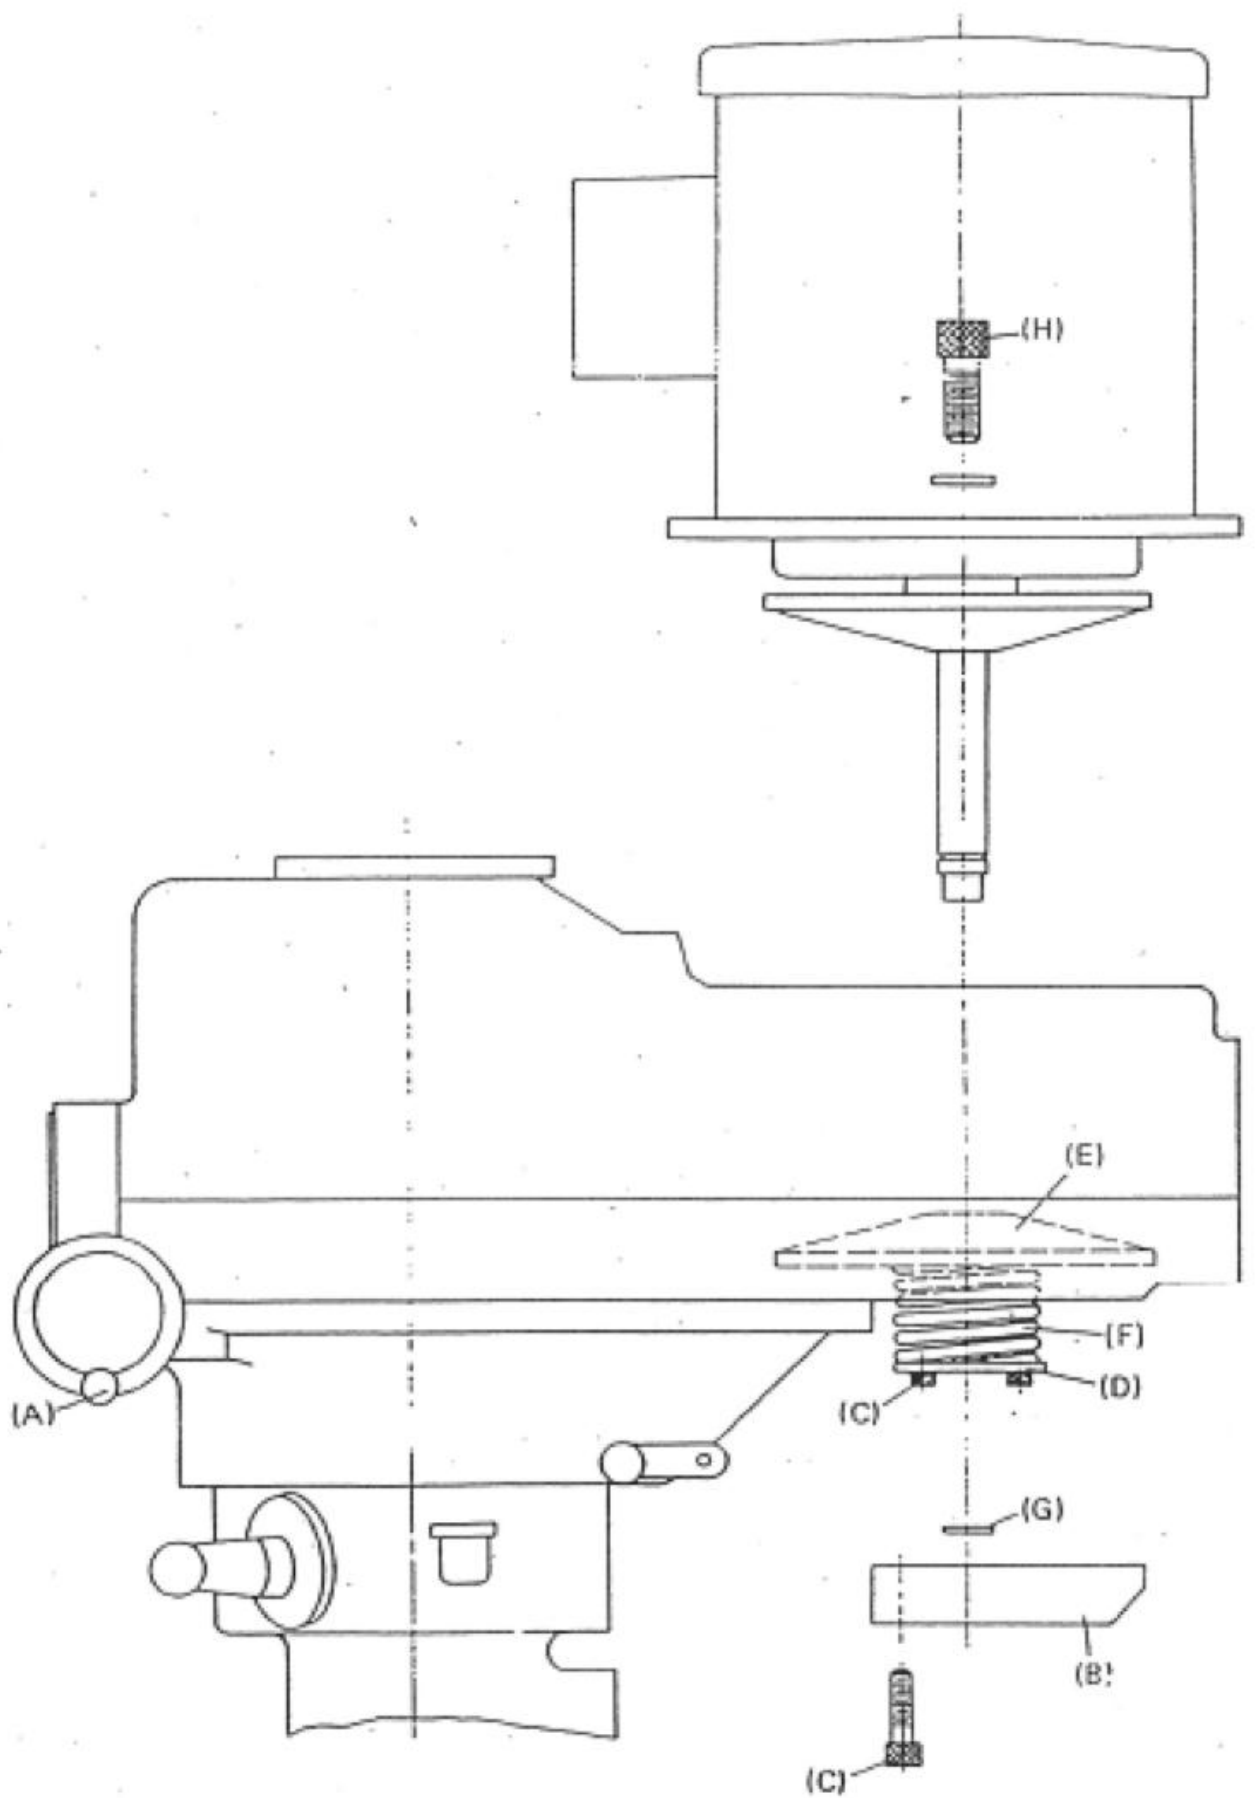

Figure 17
(1) Dismantling of TMV-185VS Motor (as shown in Figure 17):
- a. Start the motor and turn the speed change handvwheel (A) to the position of 60RPM appeared on the indicator to lower down the stationary motor van-disc to the lowest position.
- c. Remove motor pulley cover (B) under the motor shaft. Then, use the two hexagonal concave bolts (C) that locked the bearing housing to insert into the two holes of the speed change spring pieces' (D). Lock into the motor vari-disc (E) and evenly lock up the two bolts (C). Push down the speed change spring (F) so as to separate it from the retainer ring (G).
- d. Take out the retainer ring (G).
- e. Take off the two hexagonal bolts (H) that locked the motor. The motor may be lifted up. Motor vari-disc (E) and speed change belt are still kept inside the belt housing.